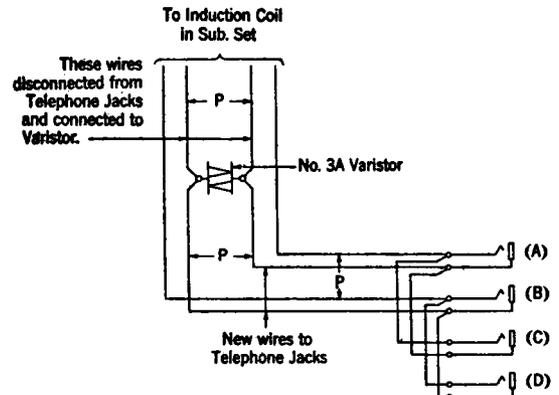

Fig. 10—Connections for No. 3 Order Turret.
- 3.21 Connect the leads to the varistor and telephone jacks as indicated by Fig. 10.